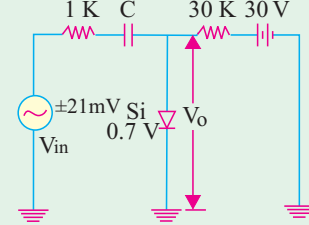

Fig. 52.51
3. In Fig. 52.51, signal voltage has a peak value of  $\neq 21$  mV and its frequency is so high that reactance of the coupling capacitor can be neglected. If bulk resistance of the silicon diode is neglected, what